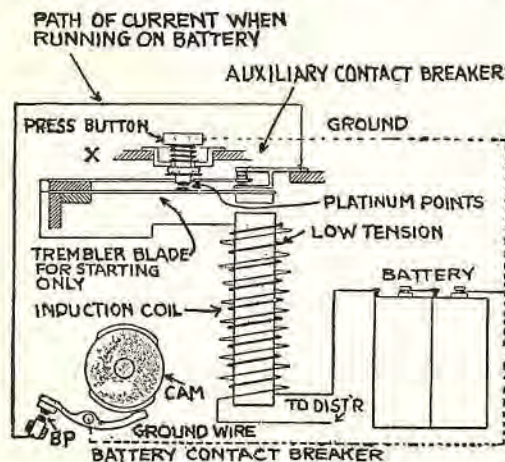

Fig. 19
To understand this ignition starting feature, see Fig. 19. The six-volt storage battery (or 10 dry cells) is supposed to be switched on (B) side.
The auxiliary contact-breaker (Fig. 19): Now let us take the exceptional case of the engine stopping with the pistons about dead center and the main contact-breaker points (BP) closed. The current this time finds an easy circuit through the closed points, the iron core becomes magnetized, the trembler blade is held down on the core, and pressing the button as before has no effect. No spark is made because there is no break in the circuit. But if the reader will examine the diagram closely, he will observe that the act of pressing the button presses the auxiliary contact-breaker blade away from its upper platinum point and on to its lower one, the momentary break thus caused in the circuit being sufficient, under the circumstances we are supposing, to create the necessary high-tension current for the spark in the cylinder and so to start the engine.